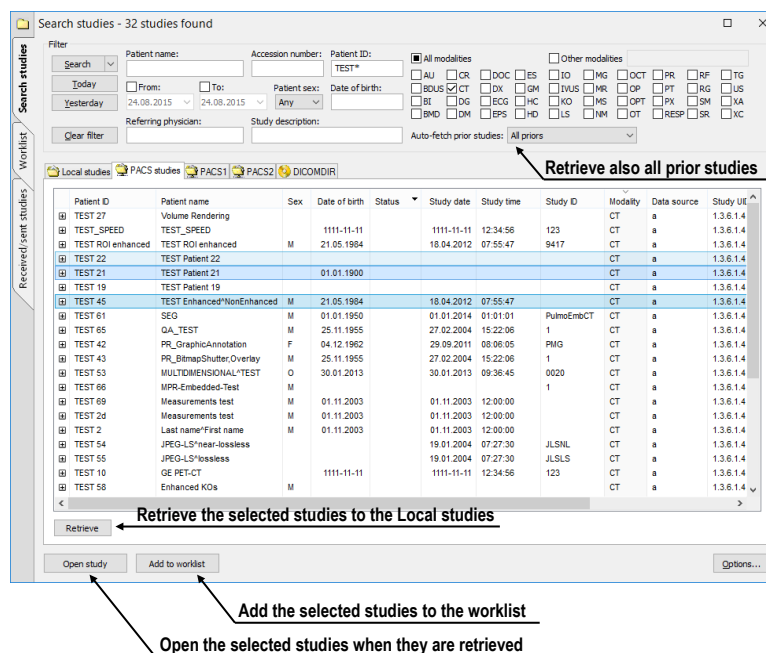

Figure 107 – Retrieving studies from the PACS server to the Local studies
2. The studies stored on the server that meet the filtering conditions will be included in the list (see Figure 107).